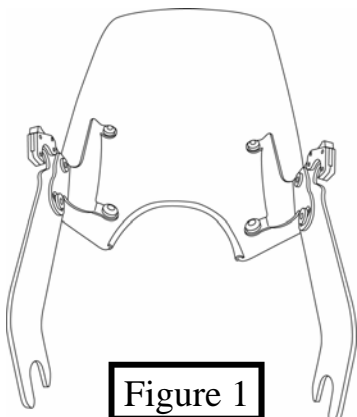

Figure 1
4. Install the two mounting plates onto the windshield, using the bolts that are pre-assembled on the mounting plates. The Santoprene Grommets should be inserted through the holes in the windshield so that the flat round part of the Grommet lies flat on each side of the windshield. *Tabs point in towards the headlight.* (See Figure 1)